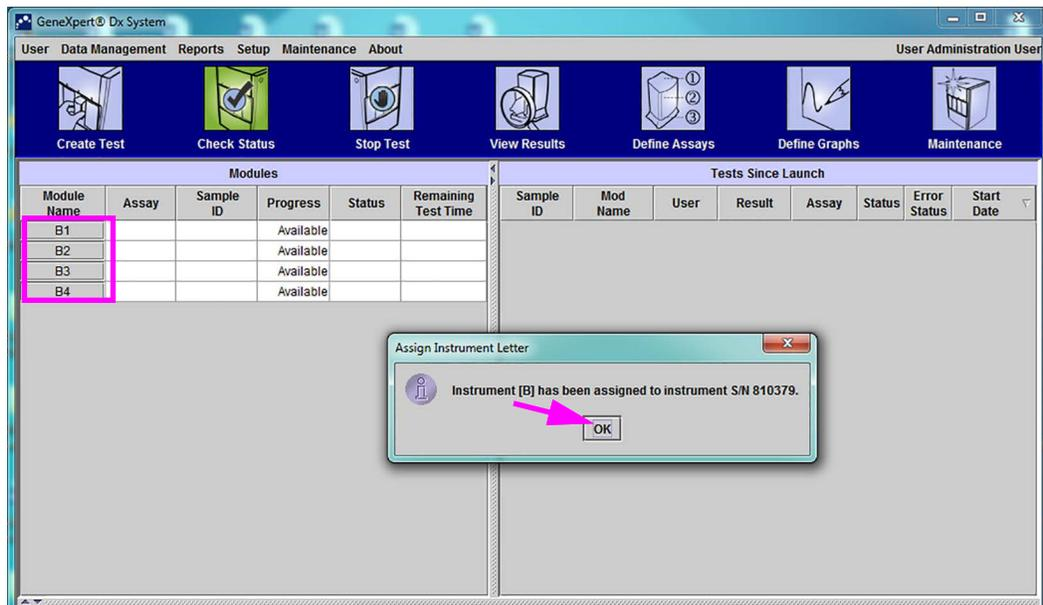

Figure 2-52. GeneXpert Dx System Window with Assign Instrument Letter Dialog Box Overlay
- The first time the software starts after installation, the software will automatically assign instrument letters. By default, the software automatically assigns a letter (A, B, etc.) to identify each instrument connected to the computer. In addition, the software also assigns a number (1, 2, 3 or 4) to each module that is installed, from left to right. For example, A1 is the first or left-most module of the A instrument. The instrument and module identification appears in the **Module Name** column in all the software windows. See Figure 2-52.